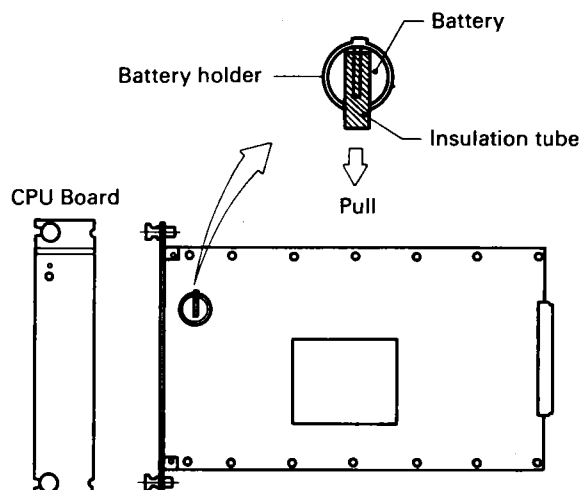

Figure 6.5 Battery Holder
- (4) The CPU board is equipped with battery backed up clock. The unit is shipped with the battery installed on the CPU. To prevent premature discharge of the battery it has a plastic insulation sleeve over the outer contact retainer clip. It is necessary to remove this insulation before starting the unit up. See Figure 6.5 for location of the battery and the insulation.
The data stored in RAM of the CPU card is backed up by a battery which is mounted on the CPU card (Figure 6.5 or Figure 10.6). The data which is battery backed up is listed below.